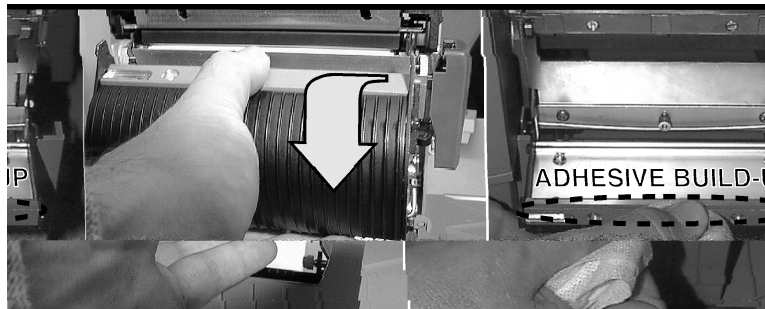

Figure 12. Peel Blade Cleaning
2. Refer to Figure 12. Open the Peel Mechanism by gently lifting up on the Media Plate and pivoting it toward you.
3. Refer to Figure 12. The primary area requiring cleaning is the backside of the Separator Bar.